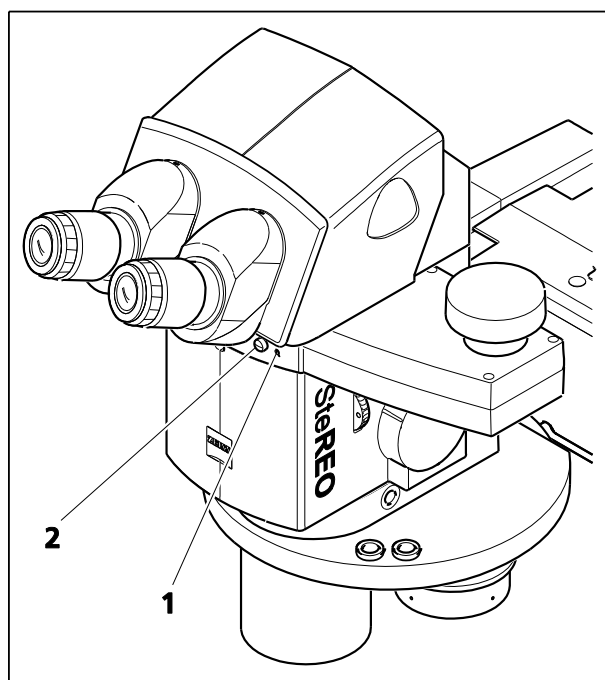

Fig. 39 Intermediate phototube S mot.,
- Change over the beam path between the camera port (doc) and the binocular tube by briefly pressing the button (Fig. 39/2). If the camera port is active, the blue LED (Fig. 39/1) in the front part of the intermediate phototube is lighting.